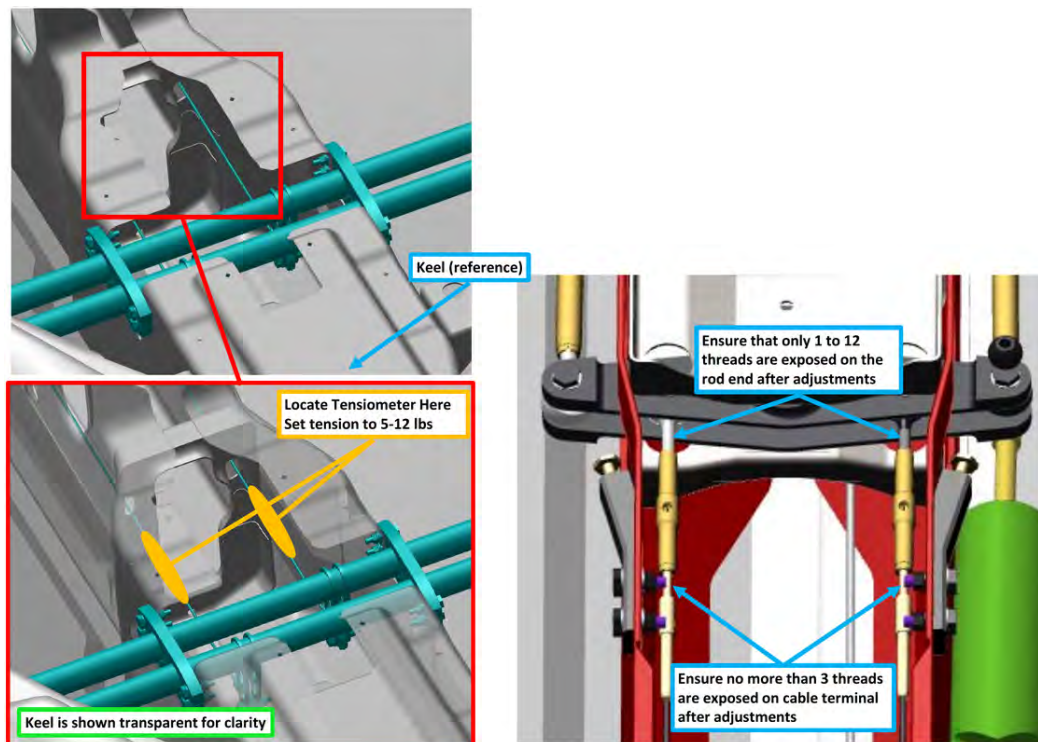

FIGURE 10-57
12. Use a tensiometer (cable thickness = 3/32 in) to rig both middle yaw control cables. To achieve the following, refer to Figure 10-57: